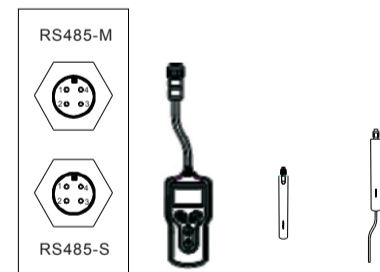

Figure 6 Connection of the AC side and the inverter
- (1) Before connecting the three-phase AC grid cable to the inverter, take lightning and short circuit protection measures in accordance with the local electrical safety codes;
- (2) As shown in Figure 6, connect and fasten L1, L2, L3, N (optional) and PE conductors of the three-phase common grid to AC terminal, and then connect the terminal to the AC port of the inverter;
- (3) Fix and connect the DC output cables of PV board with the matched DC connectors, and then connect the connectors to the DC port of the inverter.